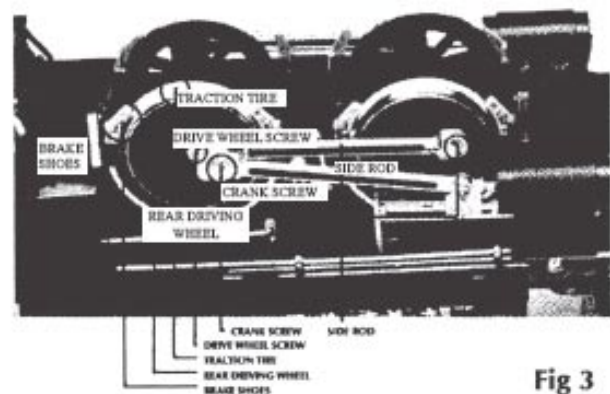

Fig 3
B) Driving Wheels: To replace the brushes on the driving wheels, it is first necessary to swing the brake shoes out of the way as shown in Fig. 3. Then, remove the side rods by removing the crank and the drive wheel screws (Fig. 3). Gently pull the drive wheel off of the axle, remembering that the brushes are spring loaded and may fly out if care is not exercised. Insert the new brushes and